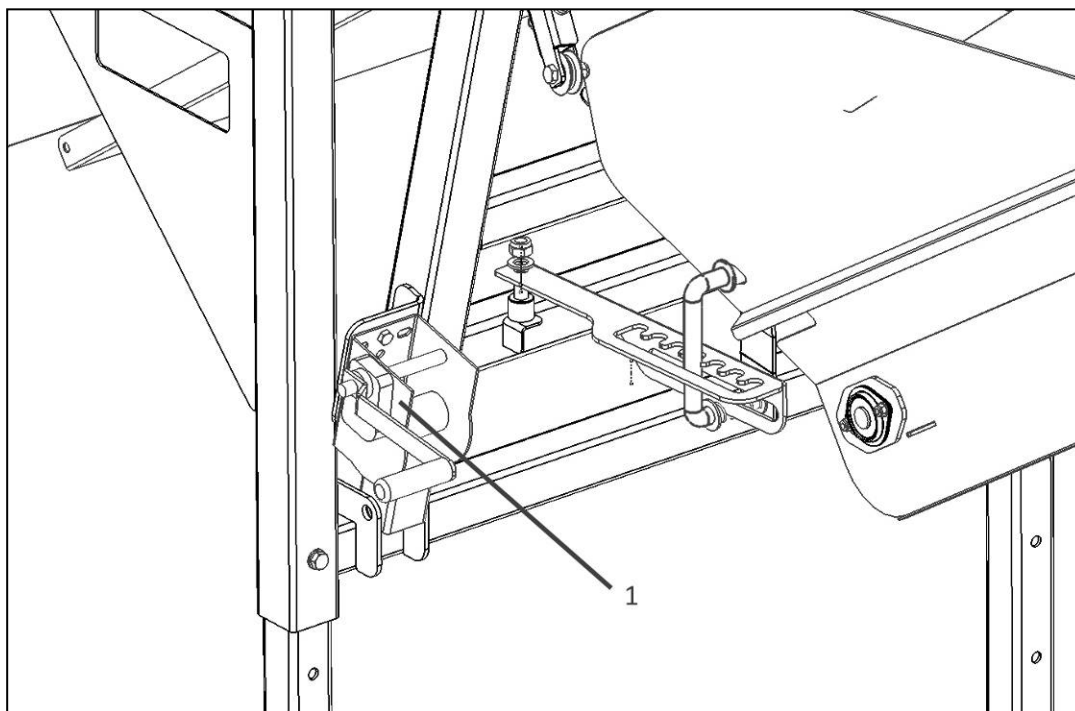

Figure 5
4. Attach the winch (Part 1, Figure 5) to its chassis with two M10x30 hexagonal bolts. Tighten these components carefully.